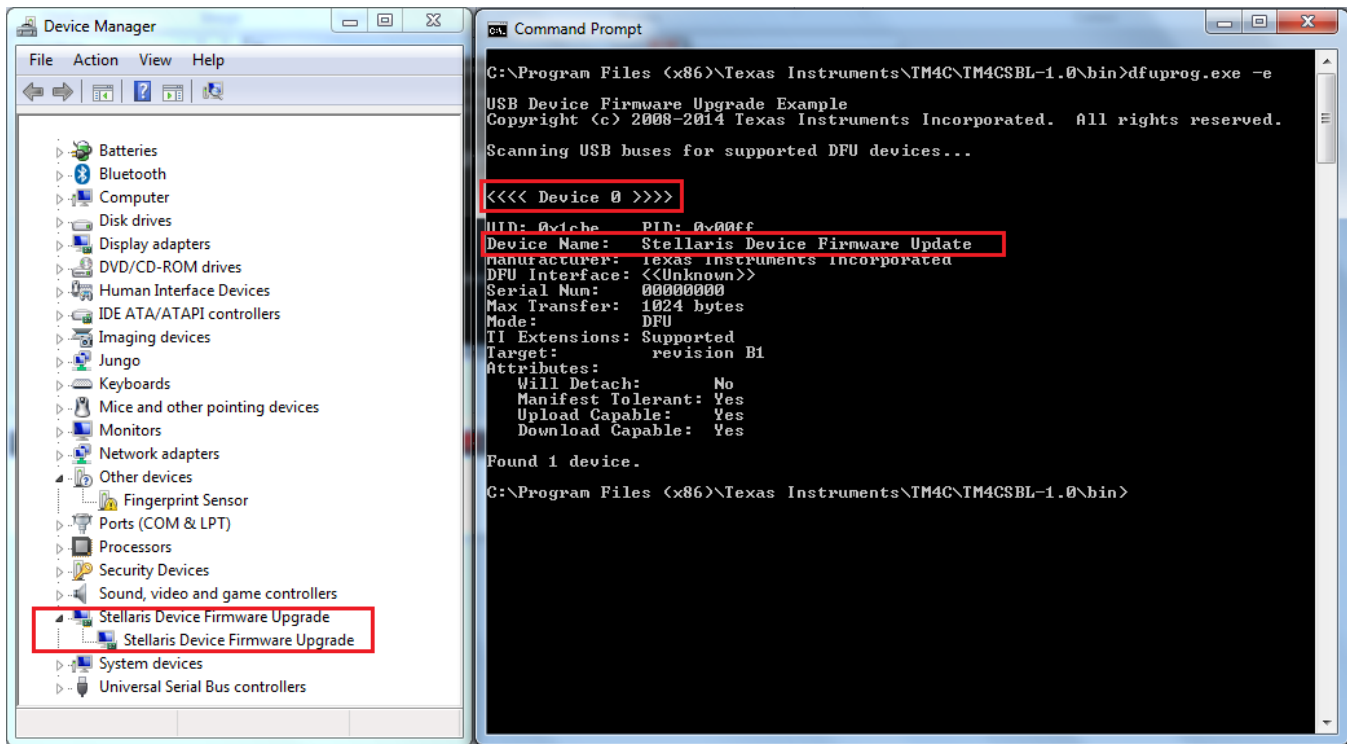

Figure 30. Getting the DFU Device Number
- Open a command window and go to the installation directory folder where the “dfuprog.exe” is kept. Run the command “dfuproge.exe –e” to show all the USB devices connected to PC host as the DFU class device. Since there may be multiple DFU class devices, make a note of the device number of the programmer board, as shown in Figure 30.